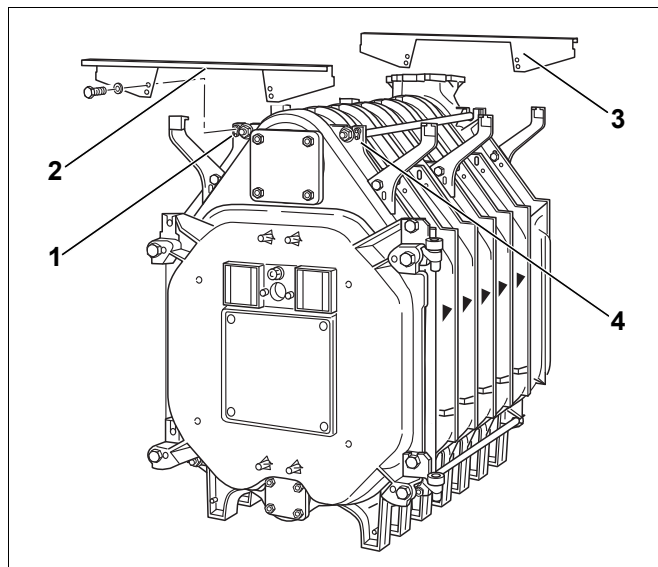

Fig. 37 Installing the cross tie-bars
- Secure the upper front cross tie-bars (Fig. 37, [2]) by hand on the cast lugs (Fig. 37, [1] and [4]) using hexagon screws (M8 × 16). The edge of the front tie-bar must point to the front.
- Secure the upper rear cross tie-bars (Fig. 37, [3]) on the cast lugs using hexagon screws (M8 × 16). The edge of the rear tie-bar must point to the rear.